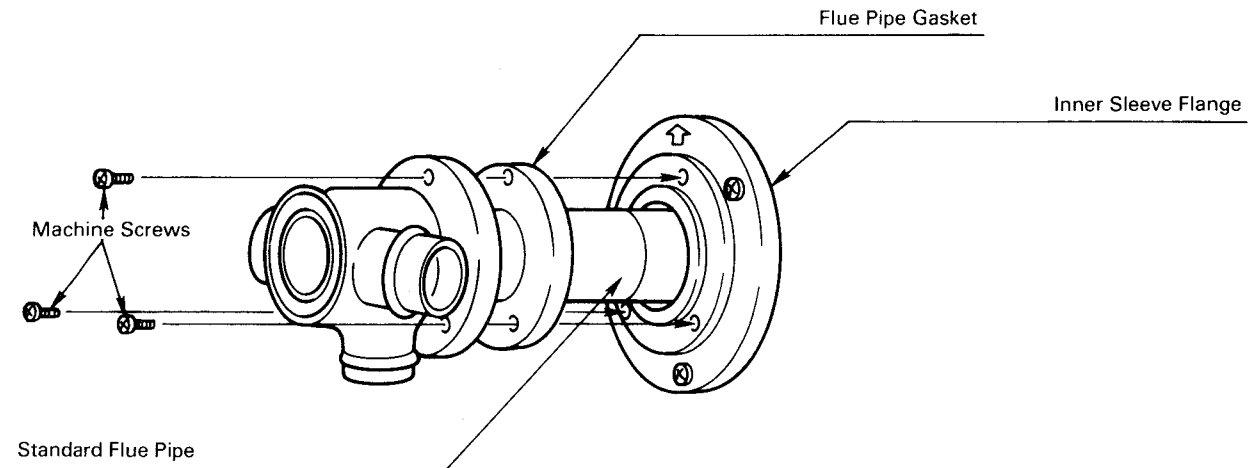

Fig. 9
6. From inside the room, insert the standard flue pipe with gasket attached through the wall sleeve. Secure the standard flue pipe to the inner sleeve flange with the three machine screws provided with the heater (See Fig. 9).